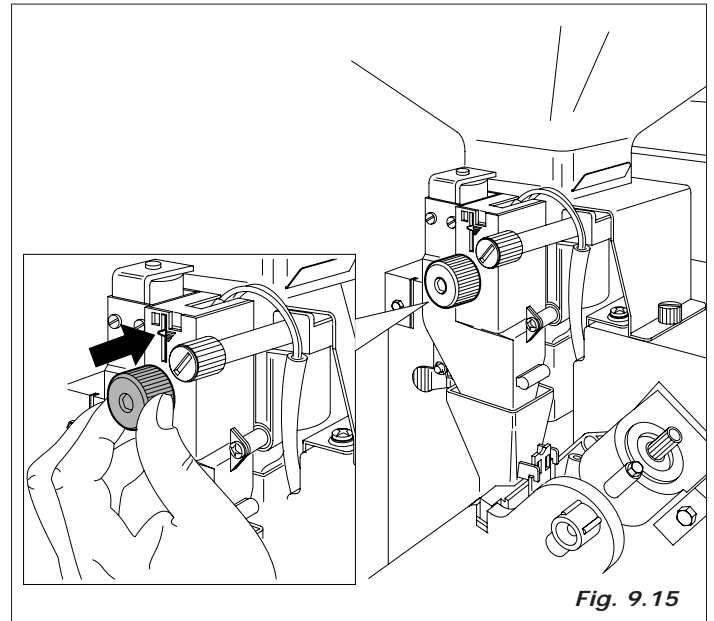

Fig. 9.15
- *Ground coffee gram weighting:* vary the quantity using the knob positioned on the measuring device (Fig. 9.15).
The variation in the product can be controlled by means of the reference notches on the body of the measuring unit (see figure 9.15)